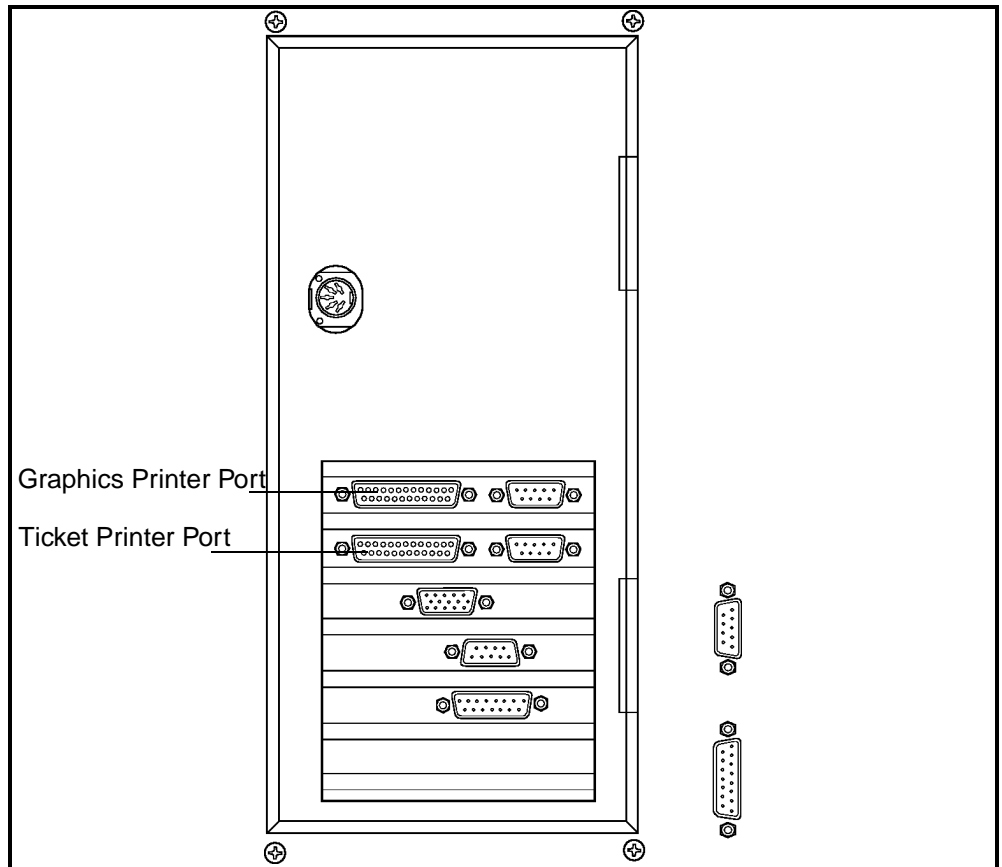

Figure 2.5: CELL-DYN 3200 Printer Ports
Follow installation instructions carefully to be sure that the printer(s) is connected to the correct port. (See Figure 2.5.) For convenience, general instructions are provided for loading individual pre-printed tickets in the Ticket Printer. For a detailed description of the printer components and operating instructions, refer to the manuals that accompany the printer.
4. Plug the other end of the printer cable into the Graphics Printer port on the back of the Data Module. (See Figure 2.5) Tighten the screws on the connector for a secure connection.
4. Plug the other end of the printer cable into the Ticket Printer port on the back of the Data Module. (See Figure 2.5.) Tighten the screws on the connector for a secure connection.